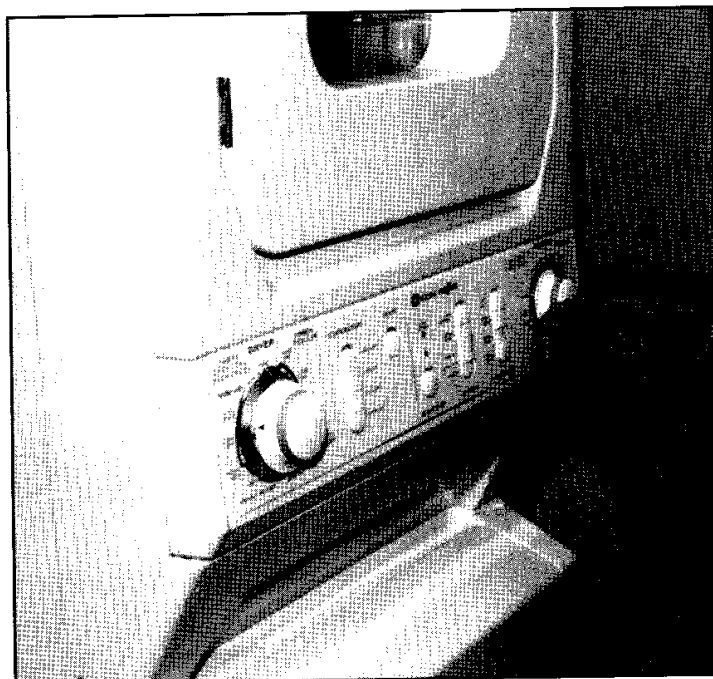

Figure 53
- 23.** Remove washer and dryer timer knobs from miscellaneous parts package and insert them on the respective shafts. **NOTE:** Timer shafts are different between the washer and dryer. (See figure 53.)